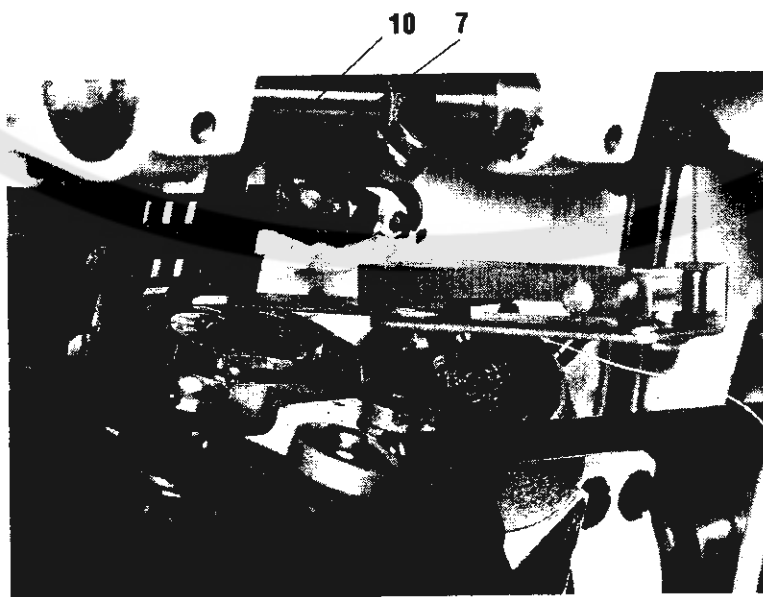

Fig. 11
## 12. Setting of the middle part of the hook holder (Fig. 11, 12)
Set the middle part hook holder (7) in such a way, so that the space between the holder nose and the bottom of the groove of the middle hook part is about 0.7 mm. Proceed to this setting after having loosened the holding screw (10) using a locating jig (Fig. 11) - see equipments part A, par. 4.2, 4.4.